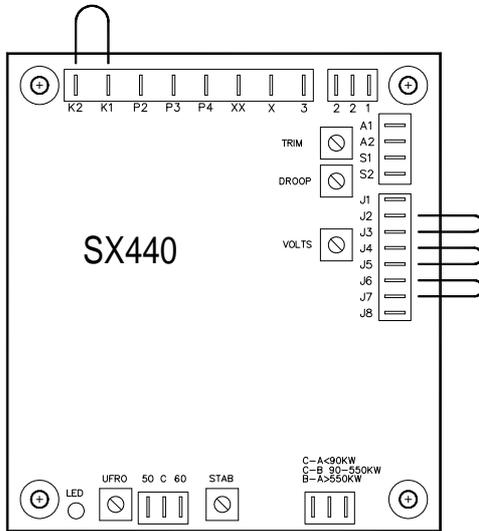
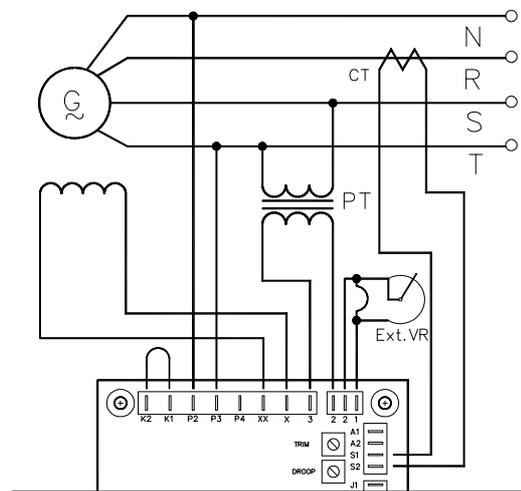

Figure 2 Bypass Drawing
Figure 3 Wiring Drawing
9. J1~J8 : Jump select terminals, 2-3,4-5,6-7. please refer to Figure 2 and Figure 3.
1. When it is required to operate the regulator in parallel with an isolated or utility bus, in addition to the regulator provisions, a 10VA current transformer (CT) is required ( See Figure 3 ). The CT is connected in a generator line and should deliver from 1 amperes secondary current at rated load.
1. For reactive droop compensation, connect the CT to it's respective regulator as shown on Figures 3.
wires are not connected well	Please refer to Figure 2
Terminal 3&2 no sensing input	Please refer to Figure 2